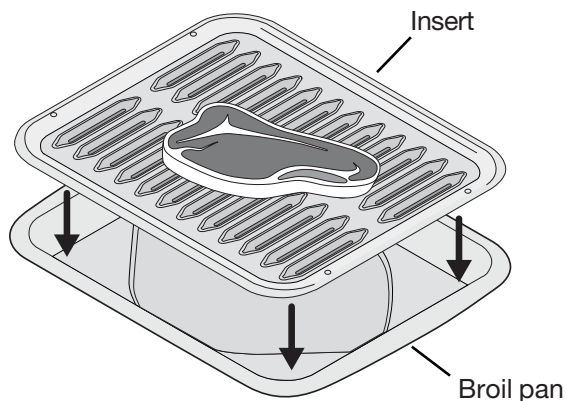

Fig. 1
- Use the recommended pans and oven rack positions for the type of meat being prepared - *p.23 Figs. 1, 2 & 3-*.
The broil pan insert (if equipped) contains slots that allows grease from the meat to drain into the broil pan. Place prepared meat on broil pan insert and then place onto broiler pan as shown -*Fig. 1*.